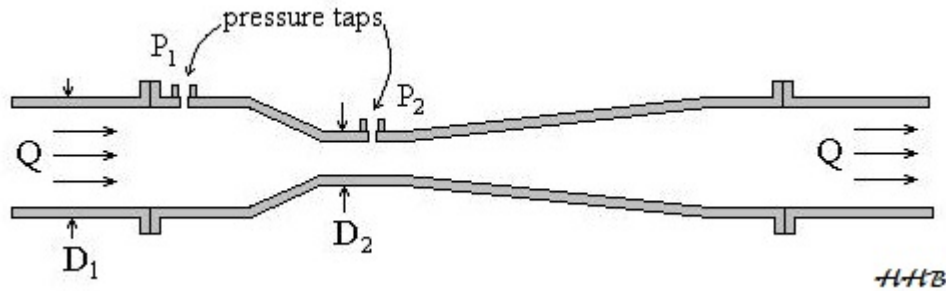

Figure 1. Venturi Meter Parameters
**Venturi Meter:** Fluid enters a venturi meter through a converging cone of angle 15° to 20°. It then passes through the throat, which has the minimum cross-sectional area, maximum velocity, and minimum pressure in the meter. The fluid then slows down through a diverging cone of angle 5° to 7°, for the transition back to the full pipe diameter. Figure 1 shows the shape of a typical venturi meter and the parameters defined above as applied to this type of meter.  $D_2$  is the diameter of the throat and  $P_2$  is the pressure at the throat.  $D_1$  and  $P_1$  are in the pipe before entering the converging portion of the meter.